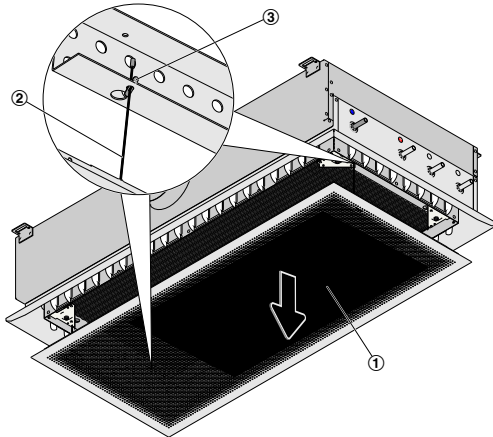

Fig. 11: Opening the induced air grille
- ▶ To open the induced air grille (Fig. 11/1), pull it down. To completely remove the grille, unhook the safety cables (Fig. 11/2) by pulling them down together with the retaining plates (Fig. 11/3).